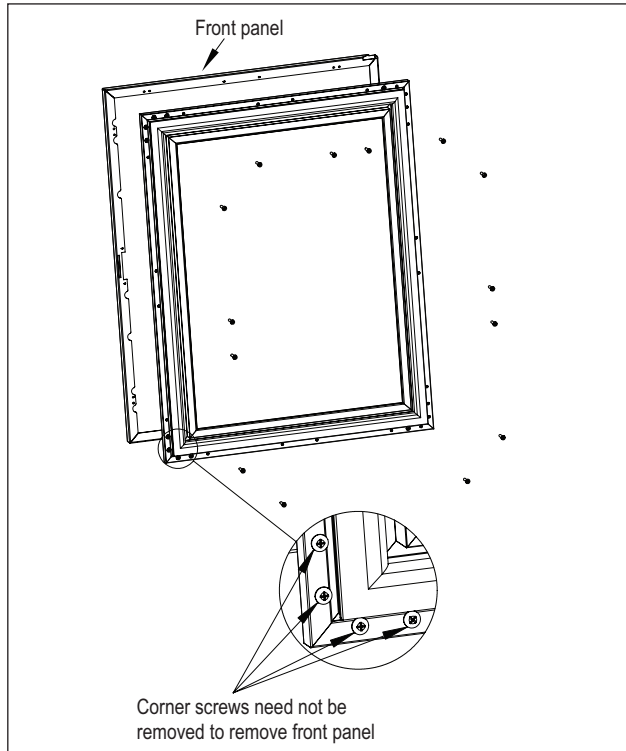

Figure 11. Removing Front Panel
7). Remove the front panel from the door assembly by removing the inner mounting screws, 4 per side, from the perimeter of the door assembly (Fig. 11). Rotate the front panel 180°. The top becomes the bottom. Reattach using the same screws and mounting holes.